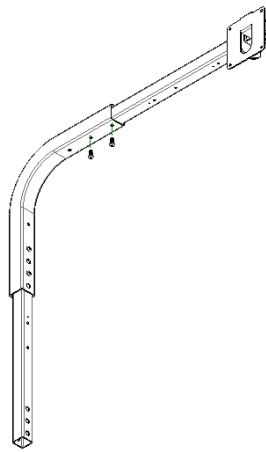

Fig. 3. Mount Assembly
- Slide 1 inch Horizontal Tube into 1.25 inch Bent Tube; fasten using (2) #10-32 Phillips Screws. See Fig. 3.